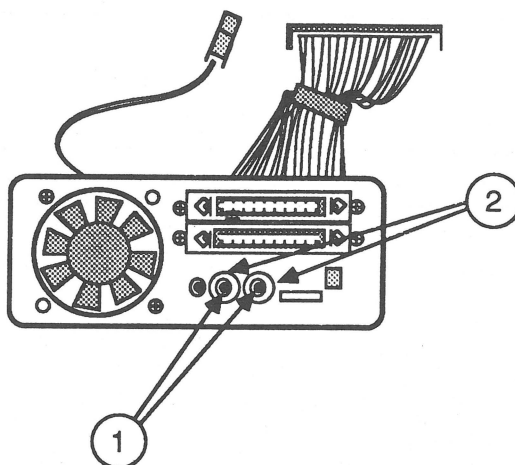

FIGURE 15
1. Position the audio board in the fan frame so that the two audio jacks (Figure 15, #1) project out through the two circular openings (Figure 15, #2) on the fan frame.